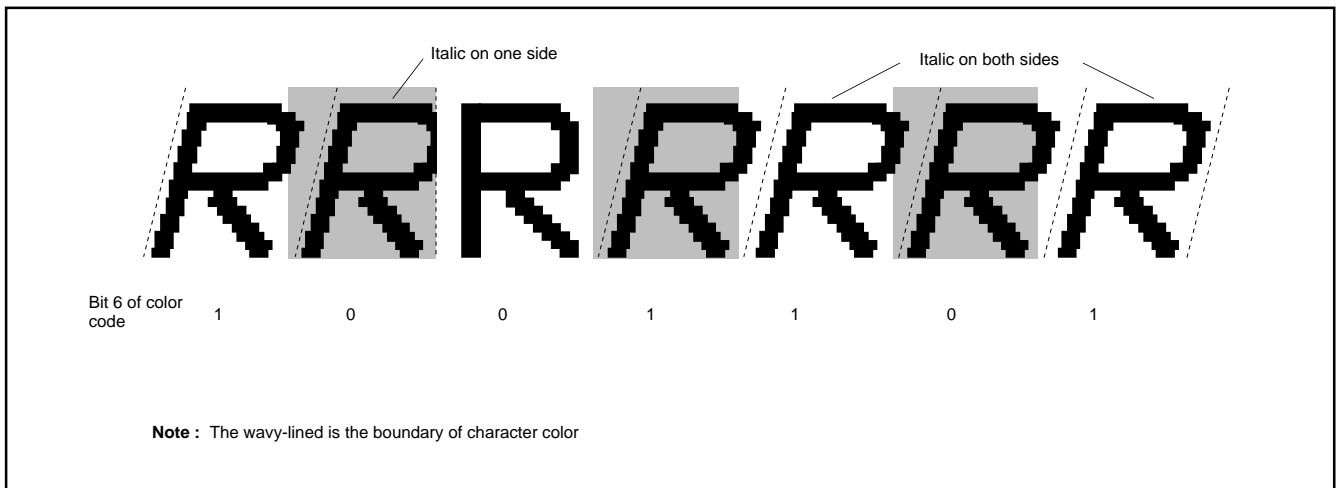

Fig. 71. Example of Italic Display
**2:** The adjacent character (one side or both side) to an italic character is displayed in italic even when the character is not specified to display in italic (refer to Figure 71).